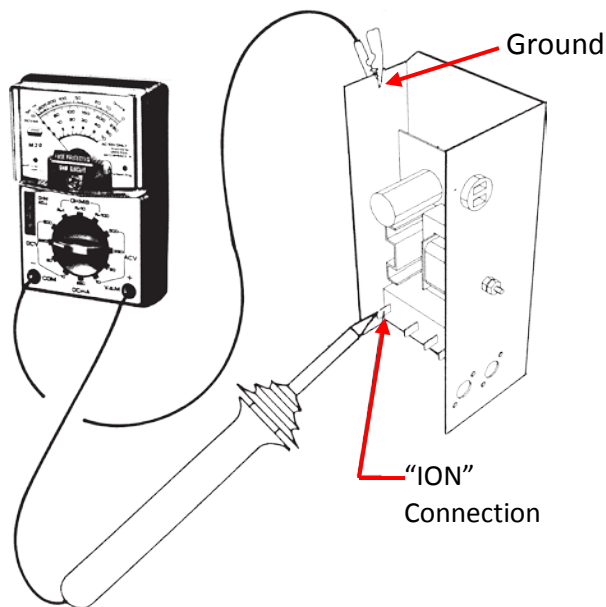

Figure 4-26-1
- 1) Disconnect the high voltage wires from the power supply points “COLL” and “ION” (Refer to Figure 4-26-1 and 4-26-2).